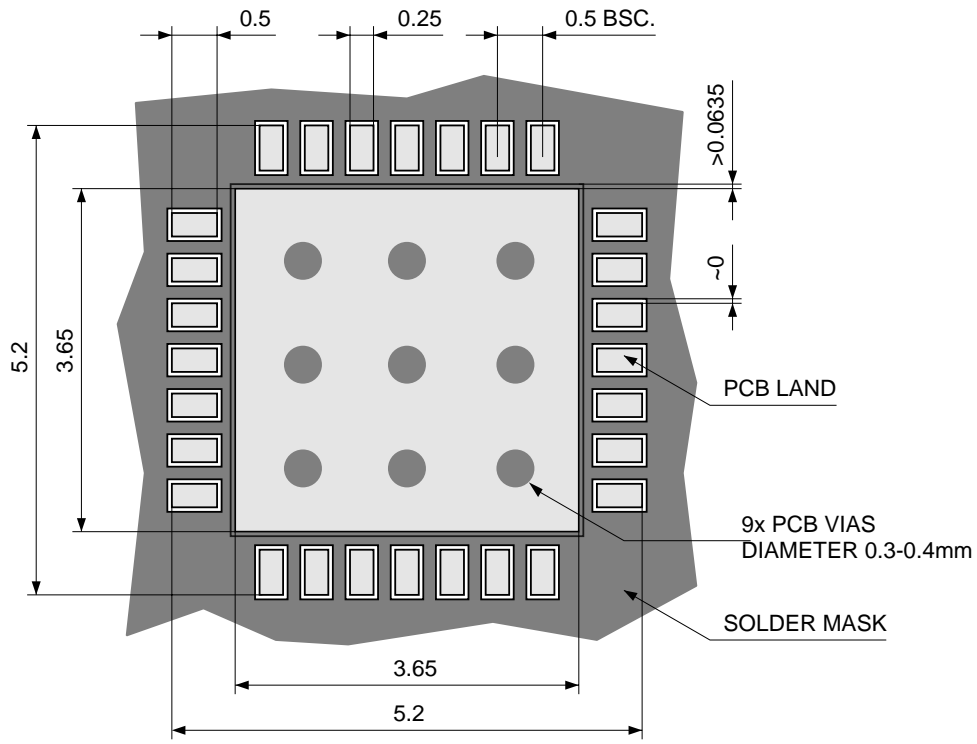

Figure 11. PCB land pattern, 5x5mm QFN package
To guarantee proper mounting of the IC, the PCB land pattern shown in Figure 11 shall be used. In particular the following requirements shall be adhered to:
- To avoid applying an excessive amount of paste, it is recommended that multiple stencil openings - summing up to about 40% of the total area - are placed under the DAP (see Figure 11). Applying too much paste may result in lifted packages and unsoldered pins.